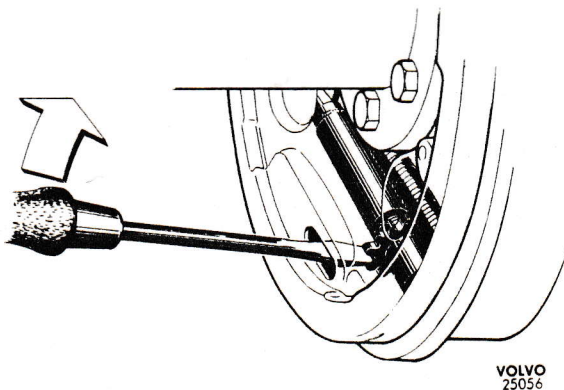

Fig. 22. Adjusting the wheel brakes.
2. Remove the rubber seal. Turn the wheel in its *normal direction of rotation* (not backwards and forwards) while the brake shoes are brought into contact with the drum by using the adjuster screw. Use a screwdriver to turn this screw or a tool as shown in Fig. 22. When the wheel can just be turned by using one hand, stop tightening the screw. Then back off the adjuster screw 12 notches. Fit the rubber seal.